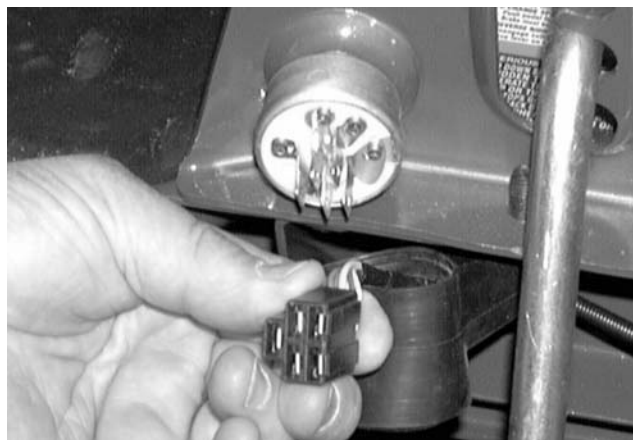

Figure 8-75.
8. Locate the ignition switch and remove the wiring harness connector. See Figure 8-75.